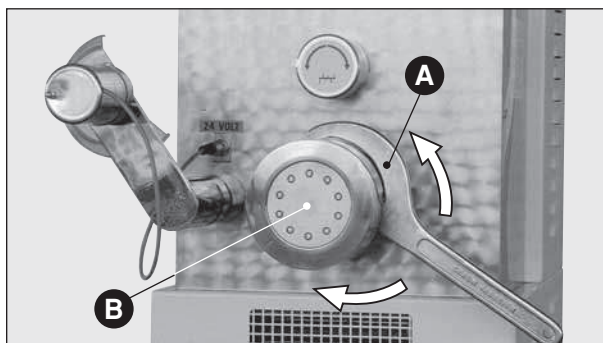

Fig. 36
- Metal ring, drawplate and filter: unscrew the metal ring with the appropriate wrench (**Fig. 36 A**) being careful not to let any pieces fall, since the metal ring is moved from its place, the product and parts still weigh a few kilos and can easily slip from your hands, causing damage both to people or to the pieces themselves.
- Archimedean screw: after disassembling the ring nut, the drawplate (**Fig. 36 B**) and the filter, the Archimedean screw can easily be taken off the machine by pushing its spiral from the internal end.